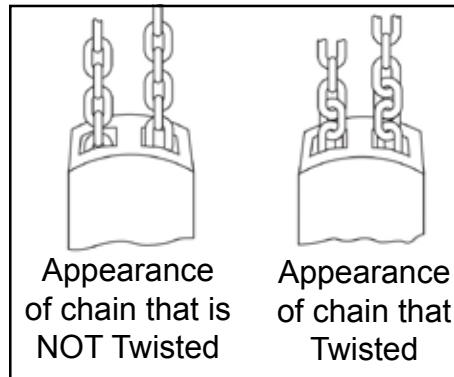
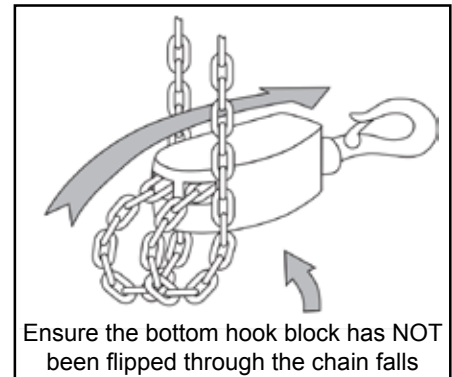
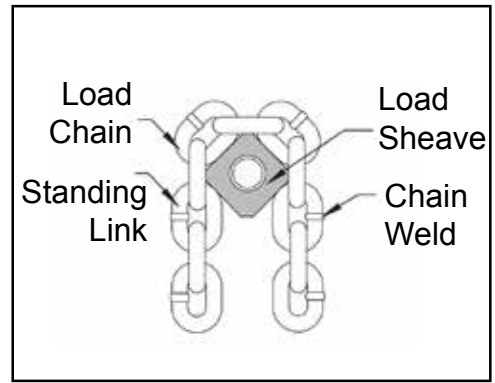

FIGURE 2
FIGURE 3
FIGURE 6
- Examine the load chain to ensure that there are no twists (See Figure 2). 3 and 5 ton chain hoists have 2 falls of load chain, 10 ton has 4 falls. Twists can arise from the bottom hook being turned over through the load chains (See Figure 3). If a twist is found, reverse capsize the chain to correct.
- » LOAD CHAIN REEVING: Make sure welds on standing links are away from the load sheave. Reinstall chain if necessary (See Figure 6). Make sure chain is not capsized, twisted or kinked (See Figure 2 & 3). Adjust as required.